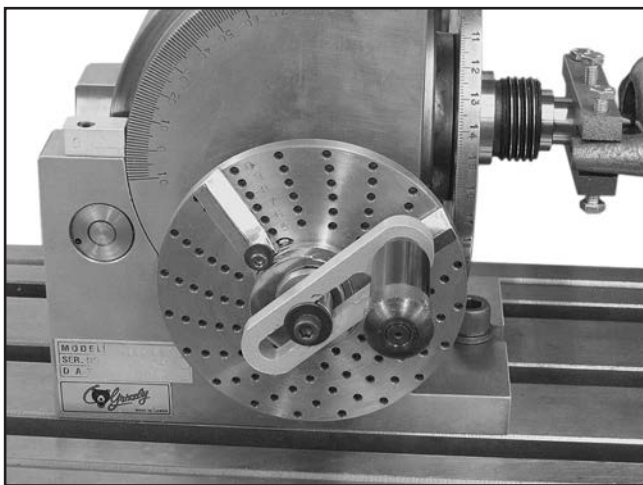

Figure 23. Crank position after $2\frac{4}{18}$ rotations.
12. Continue to rotate the crank clockwise until you can engage the index pin into the hole that is next to the right sector arm. You have now rotated the crank handle the required $2\frac{4}{18}$ turns, as shown in **Figure 23**.